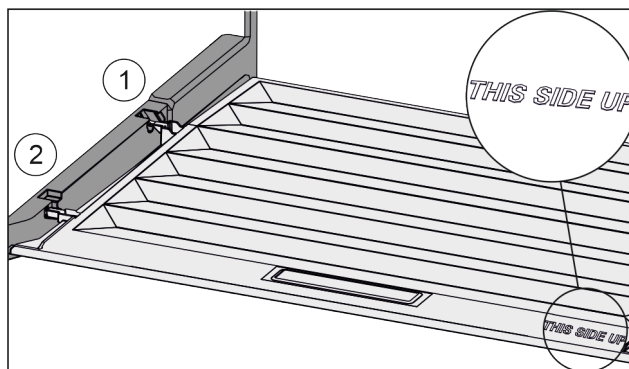

Fig. 27
- Insert the lip of the cover over the opening of the rear bracket Fig. 27 (1) and click into place Fig. 27 (2).